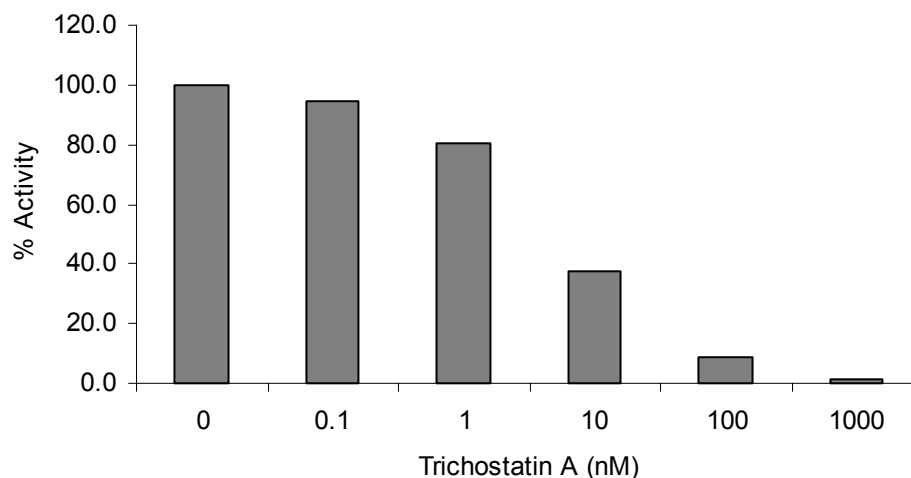

Figure 1. Trichostatin A inhibition of HDACs activity in HeLa nuclear extract measured with SensoLyte™ 520 HDAC Activity Assay Kit.
3.7 An example of the determination of the inhibition of HDAC by trichostatin is shown in Figure 1.